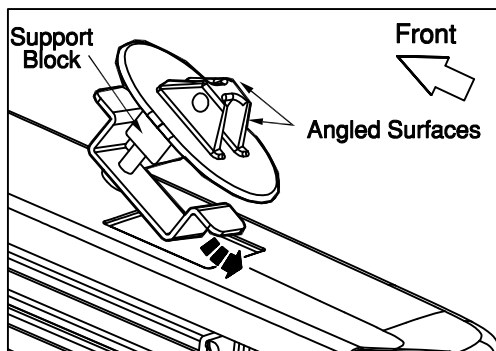

Fig. 4
5. Rotate the assembled Rear Base into the rear stake pocket hole. The rear locations must be oriented so the support block is towards the front of the vehicle. (See Fig. 4) Hand tighten only.